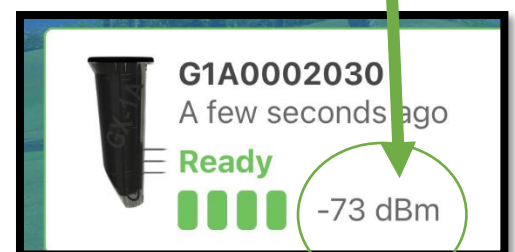

Figure 9
- i. If the signal strength is between -65 and -98 dBm (Figure 9), proceed to **Provisioning**.
- ii. If the Sensor signal strength is above -99 dBm (Figure 9), skip to the **Troubleshooting** section of this Installation Manual.
- 2) If the Sensor signal strength is above -99 dBm (Figure 9),